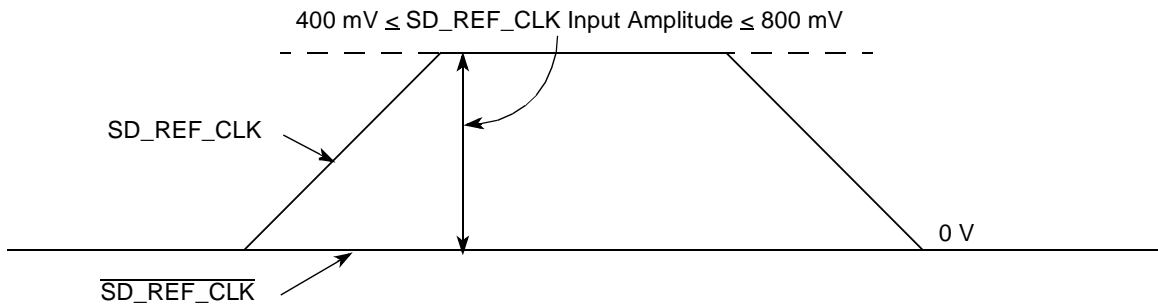

Figure 42. Single-Ended Reference Clock Input DC Requirements
- The SD_REF_CLK input average voltage must be between 200 and 400 mV. **Figure 42** shows the SerDes reference clock input requirement for single-ended signaling mode.